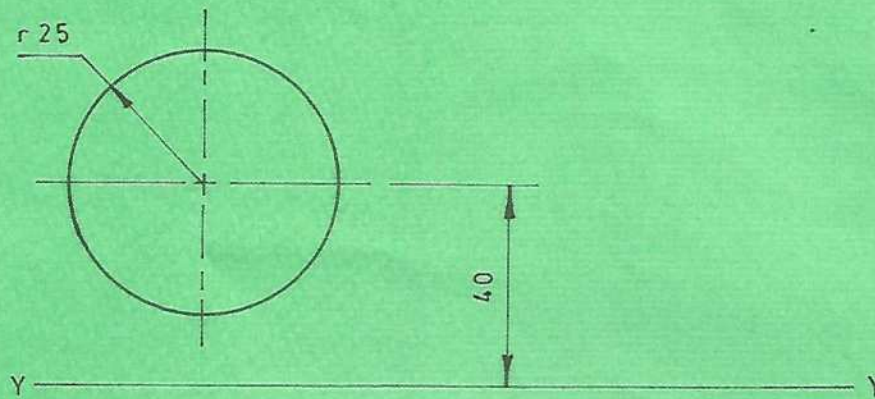

Fig. 3
3. Figure 3 shows a circle of radius 25 mm whose centre line is 40 mm above line Y - Y.